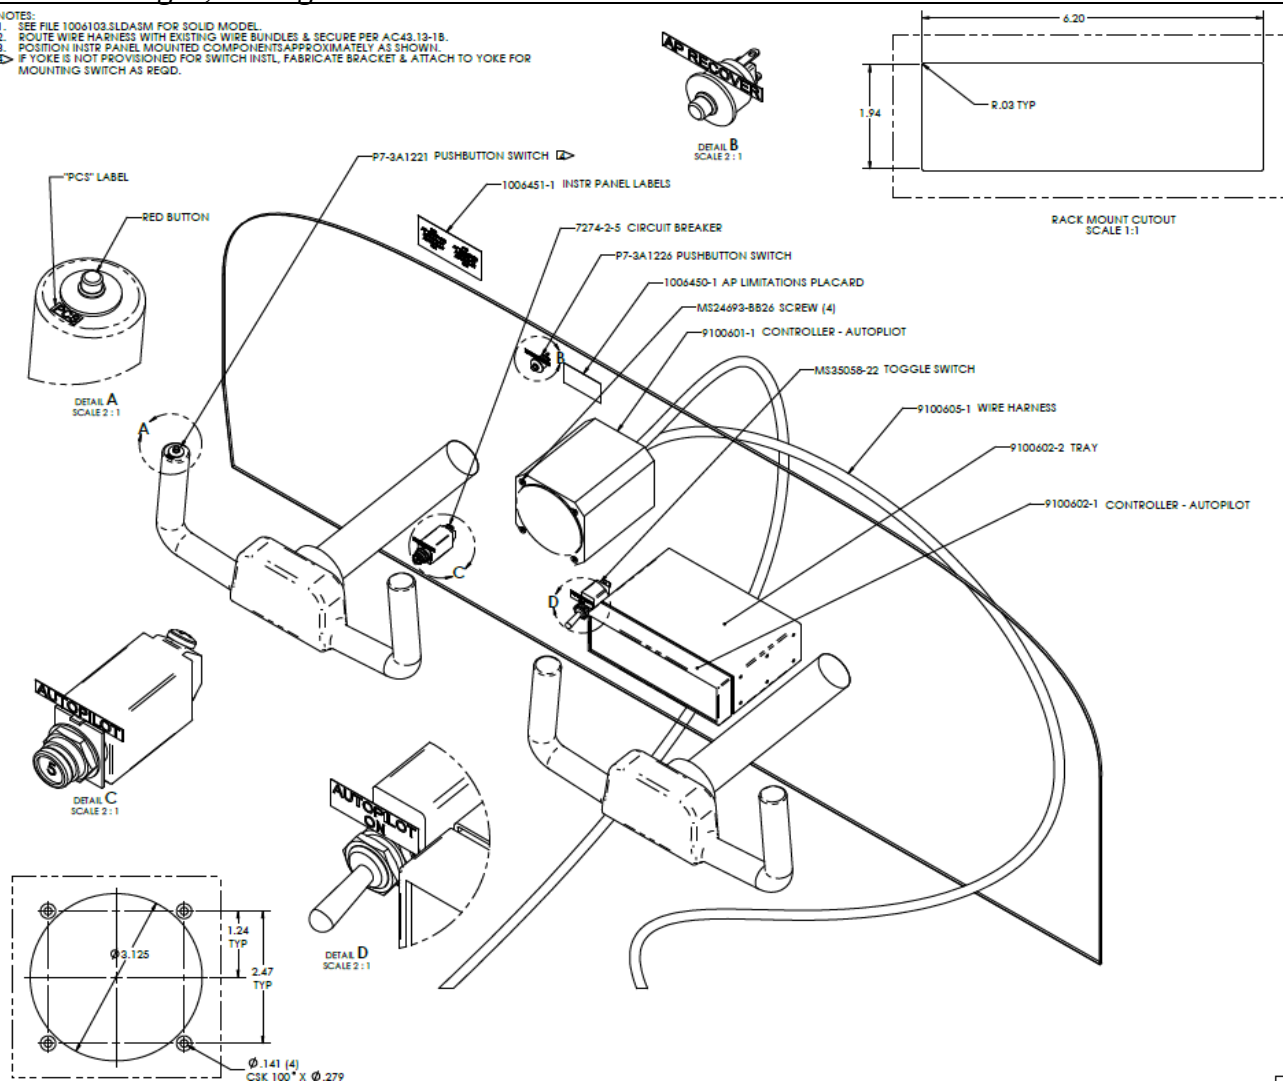

FIGURE 5-3 TYPICAL COCKPIT INSTALLATION
- 5.2.1 The Trio autopilot controller is ordered in Panel Mount or Instrument Mount versions. Refer to Figure 5-3.